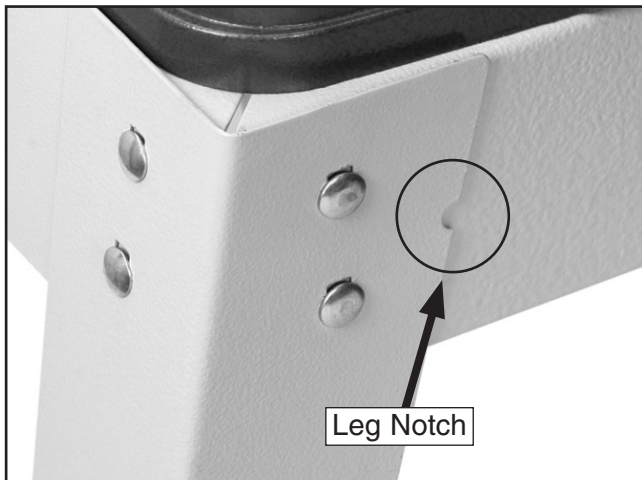

Figure 5. Leg notches.
* These stand legs each have a small, semicircular notch towards to top of the leg, as shown in **Figure 5**.